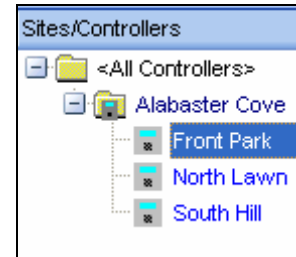

Figure 6.0.2
2. Select the Site / Controller that you want to perform the Speed Communications on from the **"Site / Controller"** window (Figure 6.0.2)
1. From the Site / Controller List select the controller that you want to turn on. Make sure that it is highlighted (Figure 6.0.2).
1. From the Site / Controller List select the controller that you want to turn off. Make sure that it is highlighted (Figure 6.0.2).
1. Select the Site / Controller that you want to perform the Speed Communications on from the “**Site / Controller**” window (Figure 6.0.2).